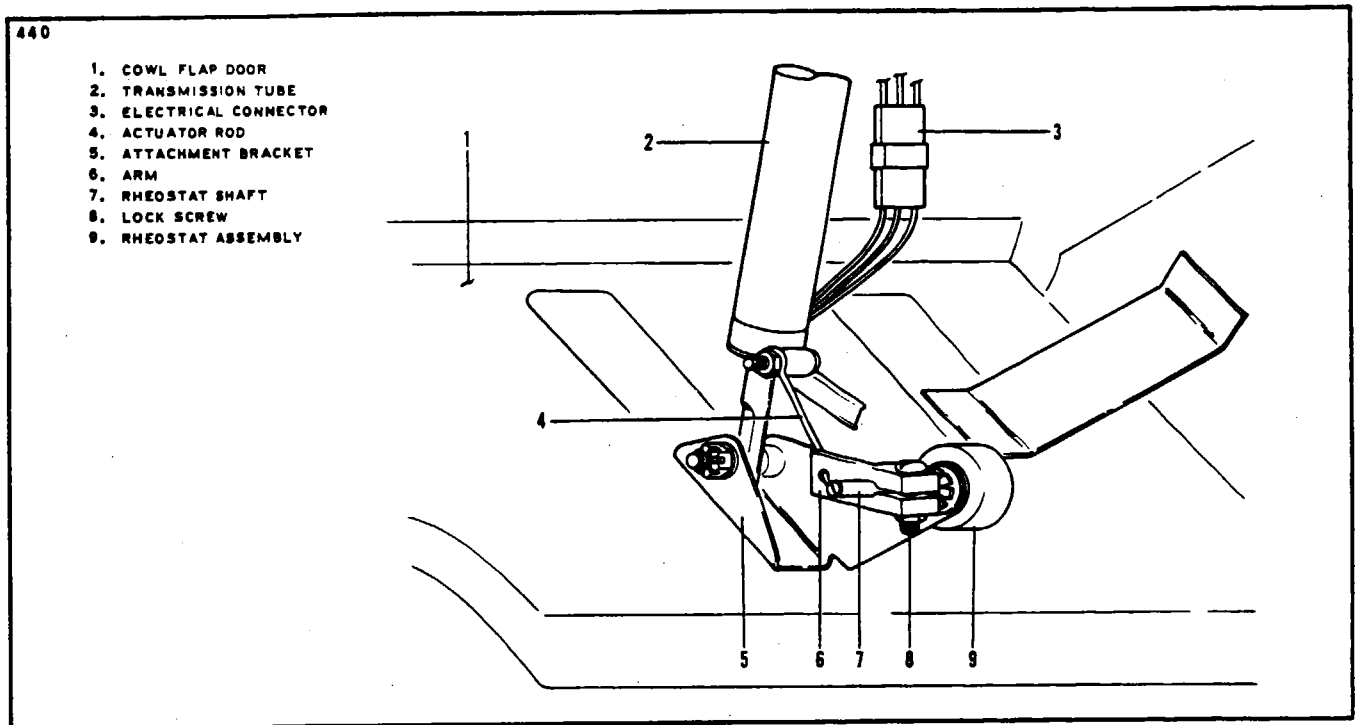

Figure 11-22a. Cowl Flap Indicator Sending Unit, Serial Nos. PA-31P - 54 and up
11-72a. ADJUSTMENT OF COWL FLAP INDICATORS. (Refer to Figure 11-22a.) (Serial Nos. PA-31P - 54 and up.) The cowl flap indicators are located in the lower left corner of the center instrument panel. The sending unit is a rheostat assembly (9) mounted on the inside of the cowl flap door. Movement of the flap turns the rheostat shaft (7) by means of an arm (6) and actuator rod (4) connected to the transmission tube (2). Adjust each side as follows:
- b. Turn master switch on and move cowl flaps to the down position by actuating the switch in the cockpit. With a voltmeter check the voltage to the rheostat by disconnecting the three pin connector (3) and check wire RIJ on the right side of the aircraft and E4D on the left side for 20-volts with the master switch on and cowl flap switch in either up or down position. If there is more or less than 20-volts the indicators cannot be adjusted properly. Reconnect the plug and move the cowl flaps to the up position by actuating the switch in the cockpit.
- c. Loosen lock screw (8) and turn shaft (7) with a screwdriver until the indicator needle on the instrument panel just reaches the up position and tighten the lock screw.